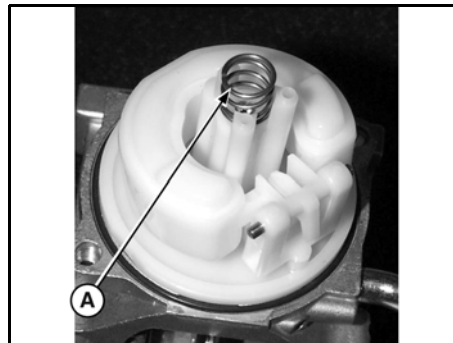

Figure 70
14. Insert the spring (A, Figure 70) to the bottom of the float assembly. Place the fuel bowl on the carburetor base, and fasten with screws. Torque screws per values listed in Section 12 - Engine Specifications.